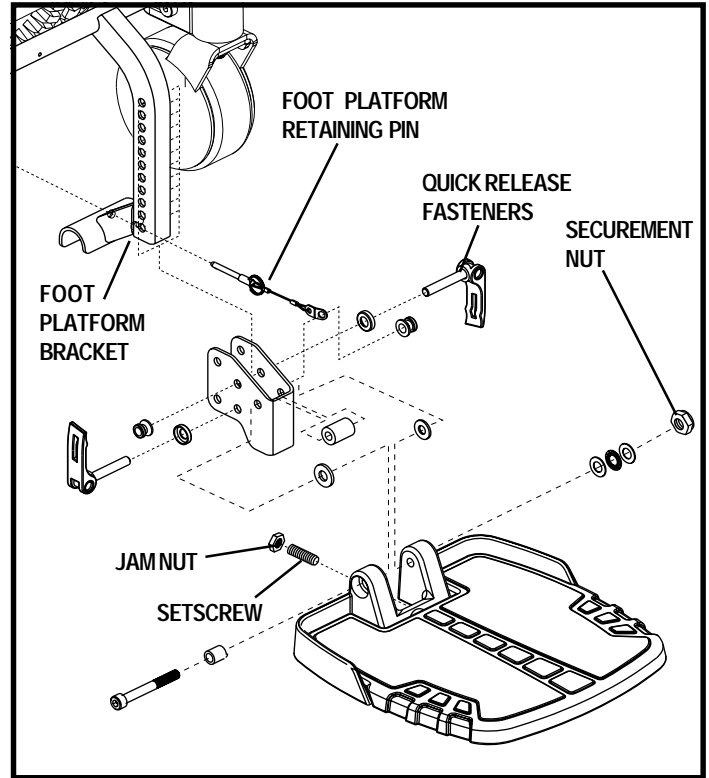
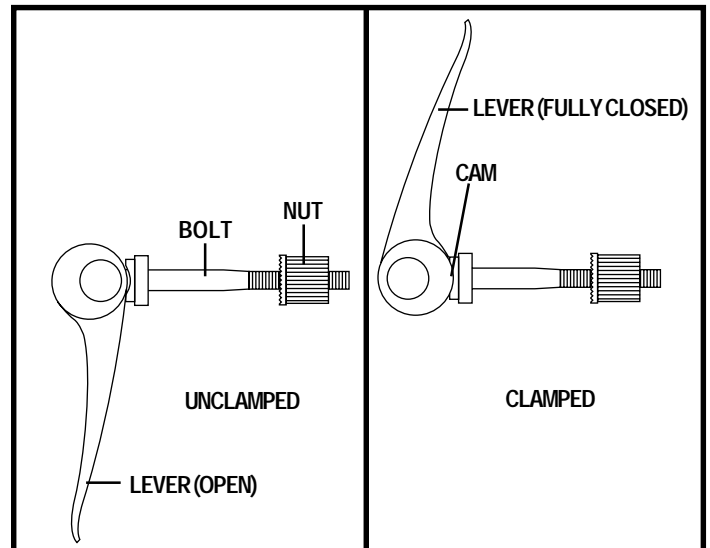

Figure 18. Foot Platform Adjustment
Figure 19. Quick Release Fastener Operation
1. Remove the quick release fasteners from the foot platform bracket. See figure 18.
Quick Release Fasteners: The foot platform is attached to the power base with two quick release fasteners. See figure 18. Each quick release fastener consists of a bolt, a lever, and a nut. See figure 19. The lever has a cam on the end that allows it to clamp into place. The quick release fastener has
You can adjust the angle of the foot platform with a hex key. See figure 18.